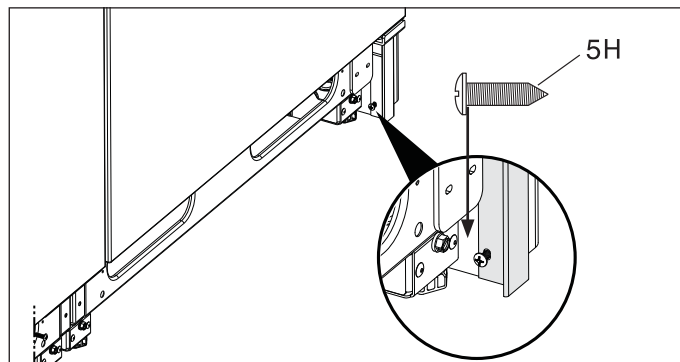

Figure 2-28.
- Fasten bottom of side trim with screw. (See Figure 2-28)